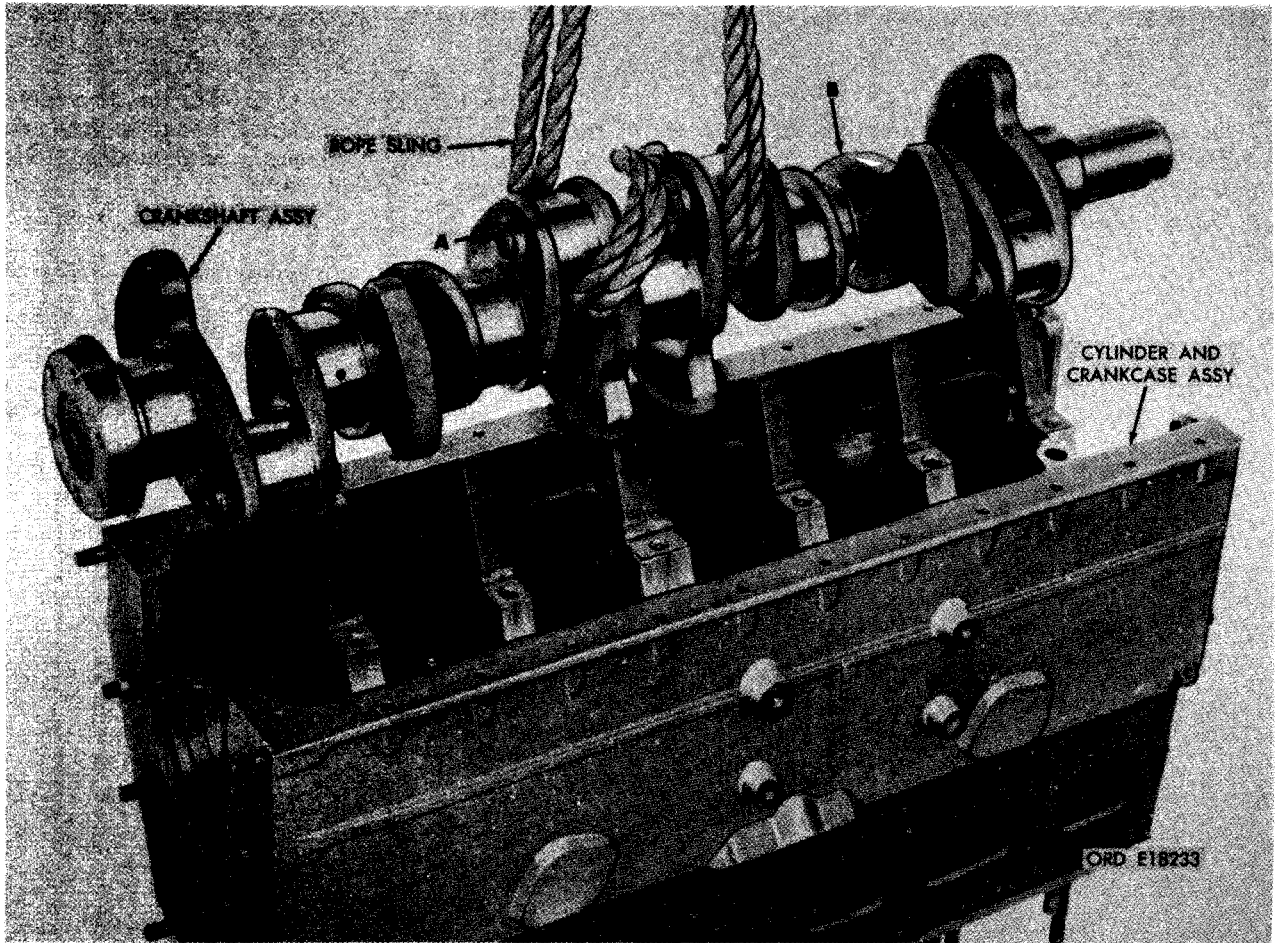

FIGURE 307. REMOVING OR INSTALLING CRANKSHAFT ASSEMBLY.
- (3) Figure 307. (A) Wrap a rope sling around crankshaft journals as shown to balance crankshaft assembly. (B) Remove crankshaft assembly from cylinder and crankcase assembly.